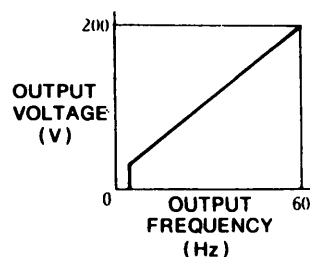

Fig. 3 Example of V/f Pattern
(1) Base drive circuit: Drives the transistors in the inverter circuit.
(2) Sine wave PWM control circuit: Calculates the pulse width every time a reference signal is received from the V/f control circuit, and outputs a PWM signal approximating a sine wave.
(3) V/f selector circuit: Selects V/f pattern from 15 types of built-in voltage/frequency (V/f) patterns (Fig. 3).